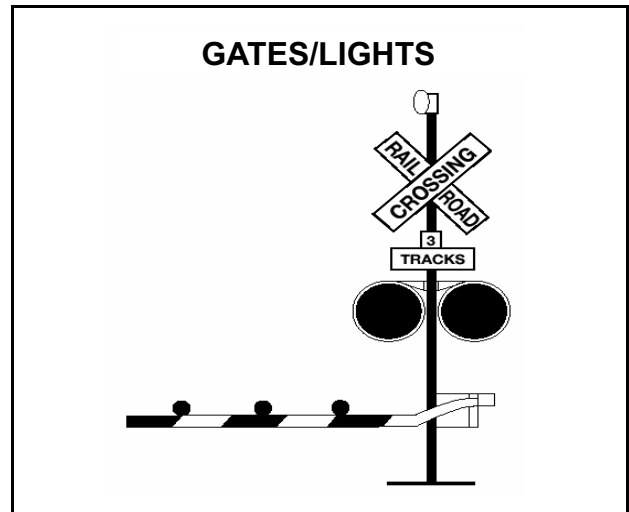

Figure 10.8
**Flashing Red Light Signals.** At many highway-rail grade crossings, the crossbuck sign has flashing red lights and bells. When the lights begin to flash, stop. A train is approaching. You are required to yield the right-of-way to the train. If there is more than one track, make sure all tracks are clear before crossing. See Figure 10.8.
when it is safe. If the gate stays down after the train passes, do not drive around the gate. Instead, call your dispatcher. See Figure 10.8.